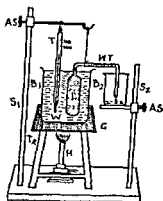

fig. 5.2
5. Suspend the weight thermometer in the water bath with its mouth inside beaker as shown in the fig. 5.2 and then heat it.